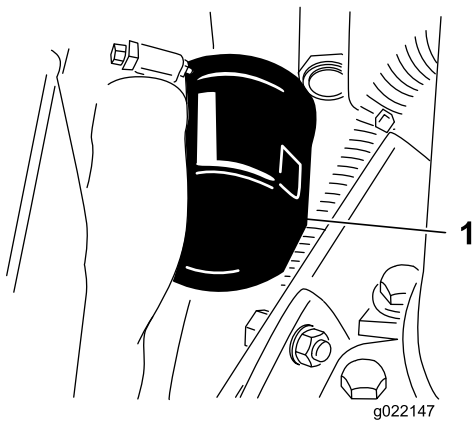

Figure 56
2. Remove the oil filter (Figure 56).